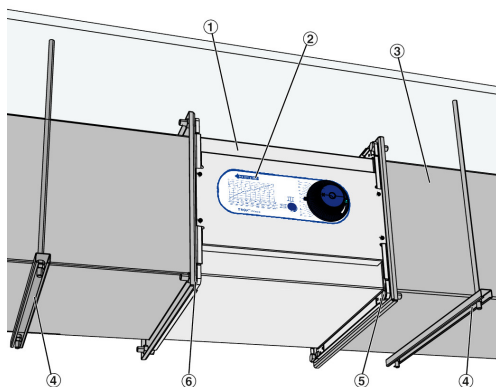

Fig. 7: Installation example
1. ▶ Install suspension rods and bars (Fig. 7/4) at the installation location, at a distance of approx. L+4".
2. ▶ Assemble the ducts (Fig. 7/3) and lead them up to the installation location of the controller.
3. ▶ Insert seals (Fig. 7/6) between the flanges
Observe the air direction arrow (Fig. 7/2) during installation.
4. ▶ Screw the controller (Fig. 7/1) together with screws, washers and nuts M10 (Fig. 7/5).
- Screw connection (Fig. 7/5) with screws and washers M8;